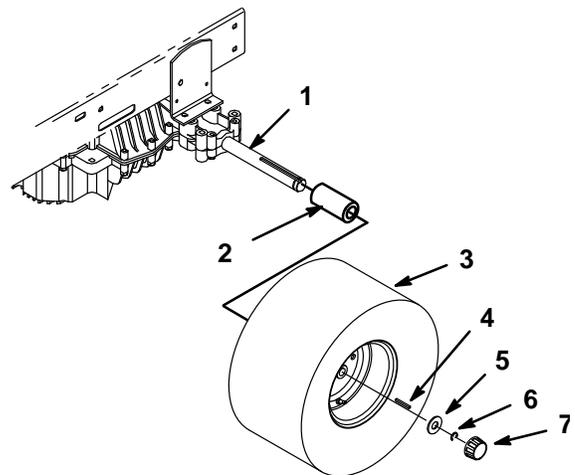

Figure 2
2. Slide spacer then wheel, with valve stem to the outside, onto axle (Fig. 2).
3. Slide key into keyway of axle and wheel hub (Fig. 2).
5. Slide washer onto axle and secure with E-ring (Fig. 2). If E-ring does not fit, remove shim washer(s) as required.
6. Press hub cap over washer (Fig. 2).